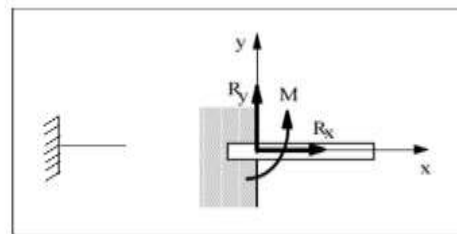

Fig 4. Fixed support
- This support contacting the beam to a part considered as fixed, this type of support therefore introduces three reactions unknowns, the two projections of  $R$  on two axes of the mean plane and the intensity of the Moment  $M$  perpendicular to the mean plane. such as in figure 4.